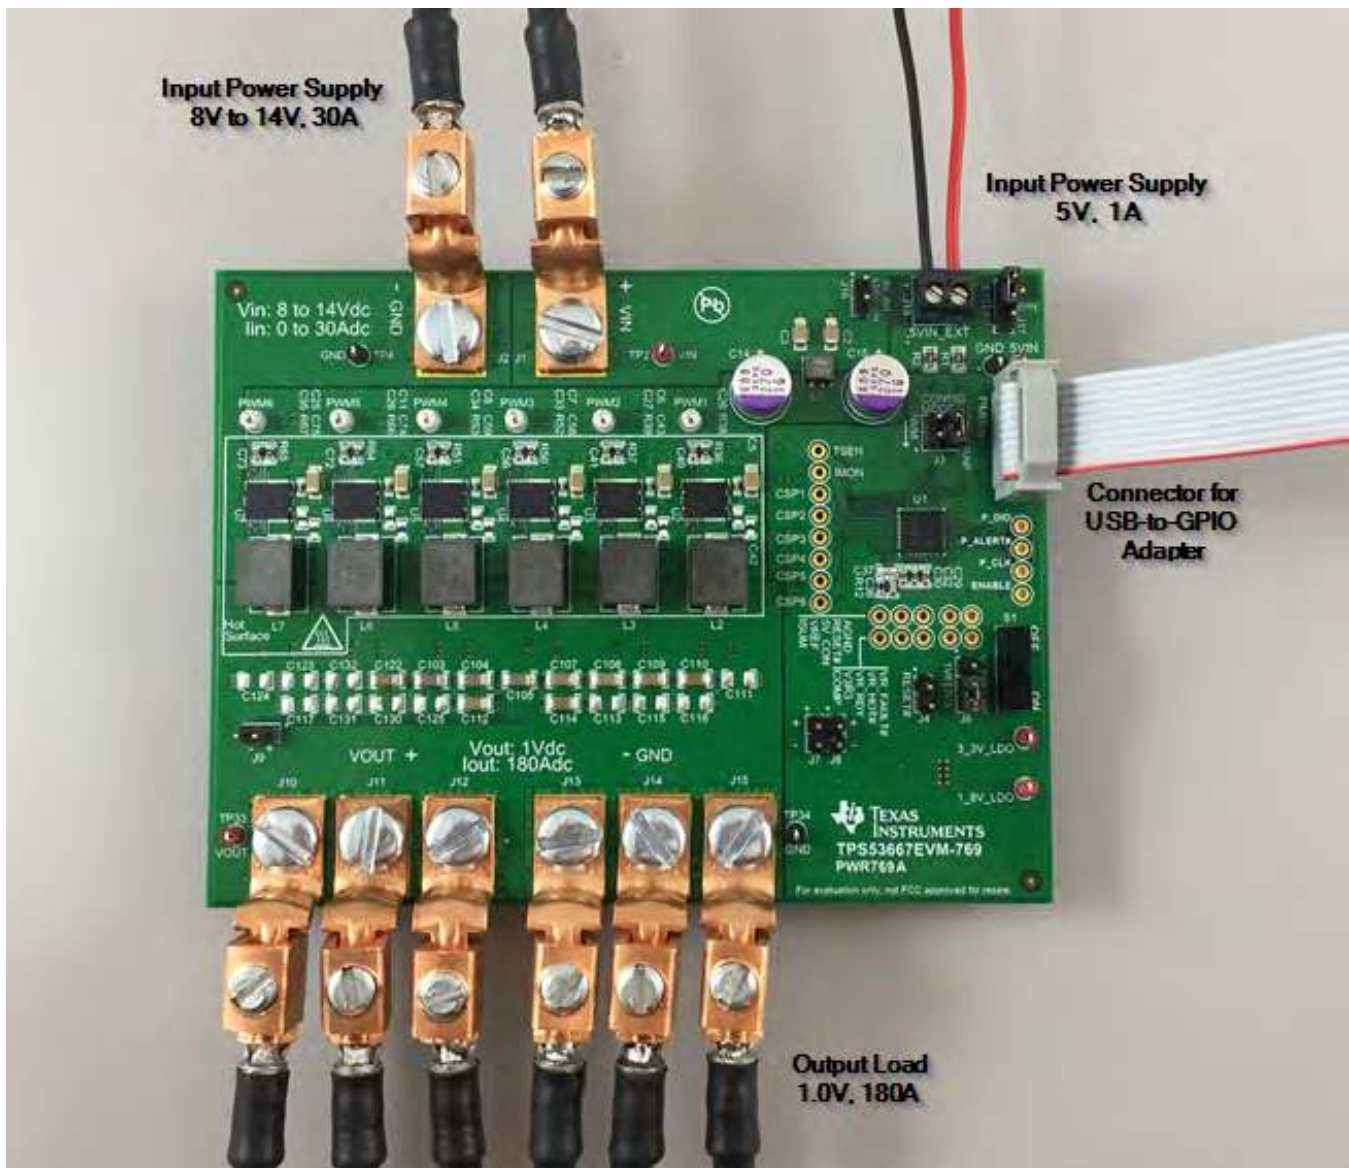
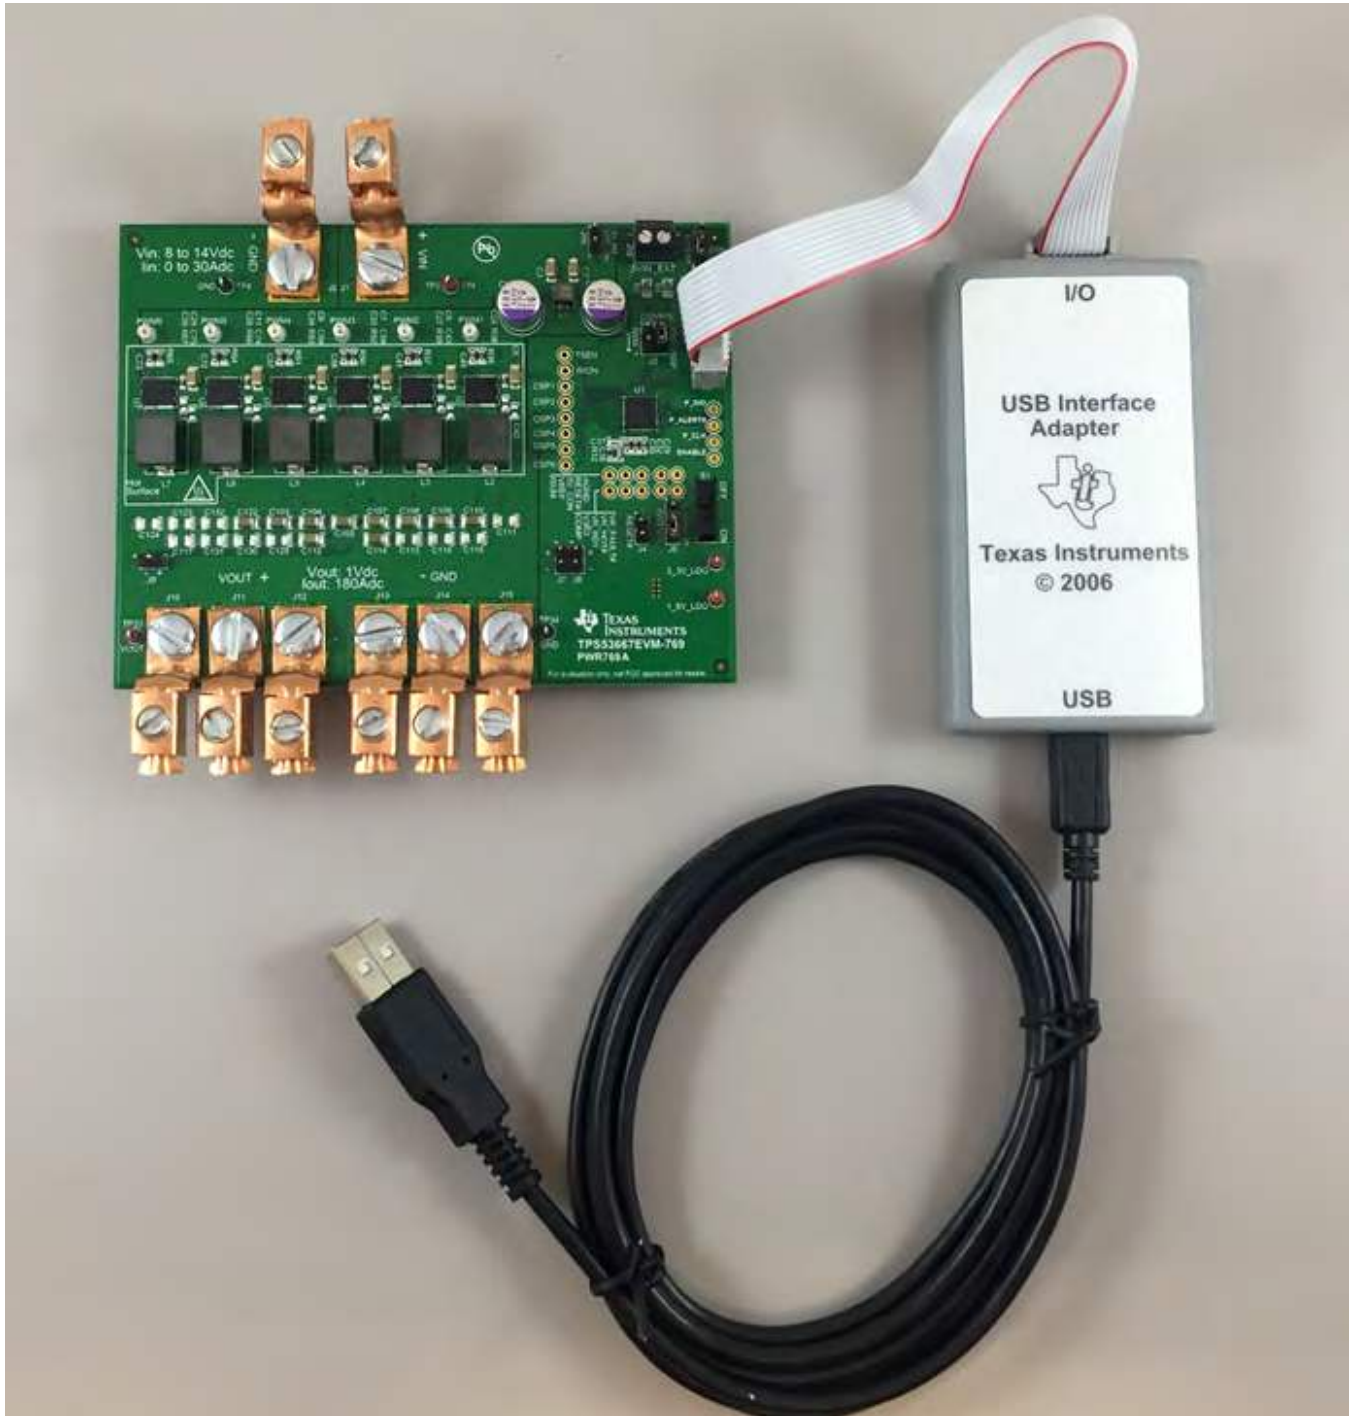

Figure 4. TPS53667EVM-769 Recommended Test Setup
Figure 5. Texas Instruments USB-to-GPIO Adapter and Cable
The Fusion Digital Power Designer is a graphical user interface (GUI) used to configure, control and monitor the TPS53667 controller on the EVM. The software uses the PMBus™ protocol to communicate with the controller over a serial bus by way of the TI USB-to-GPIO Interface Adapter (see Figure 5).
Two DC input voltage sources are needed (V_{IN} and 5VIN). The V_{IN} input voltage source should be a 0 V to 14 V variable DC source capable of supplying 30 Adc. The 5VIN input voltage source should be a 5 V fixed DC source capable of supplying 1Adc. Connect V_{IN} to J1, J2 and connect 5VIN to J19 as shown in Figure 4.
An electronic load is recommended for the test setup as shown in Figure 4. The load should be capable of sinking 180 A at 1 V.
A communications adapter is required between the EVM and the host computer. This EVM is designed to use the Texas Instruments USB-to-GPIO adapter, see Figure 5. To purchase this adapter visit the TI usb-to-gpio tool page.
Figure 4 shows the recommended test setup, which includes VIN and 5VIN input voltage sources, output load, and USB-to-GPIO adapter.
Figure 5 shows the USB interface adapter and cable.
2. Apply the input power source VIN to the EVM. Refer to Figure 4 and Figure 5 for connections and test setup.
1. Set up EVM as described in Figure 4.